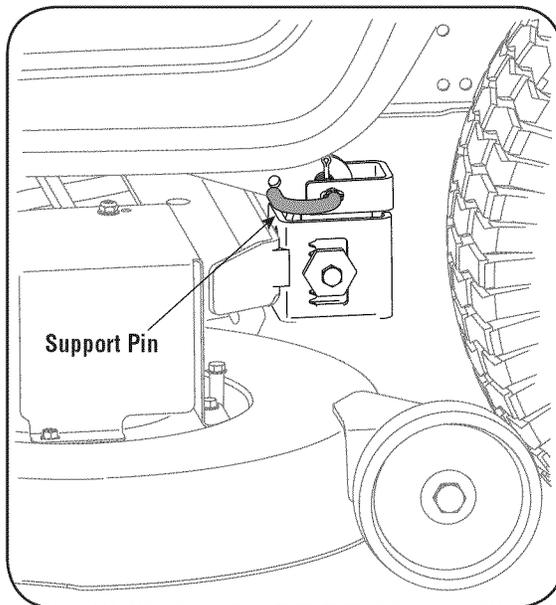

Figure 6-3
6. Pull the deck support pin outward to release the deck from the deck lift arm. See Fig. 6-3.